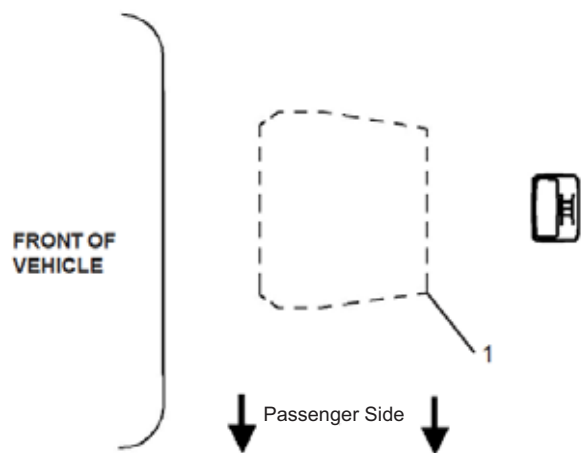

FIGURE 2
- 3.) USING A SHARP UTILITY KNIFE, CAREFULLY CUT THE HEADLINER ALONG THE LINES TRACED ON THE HEADLINER (1) AND REMOVE THE CUTOUT MATERIAL. (SEE FIGURE 2)